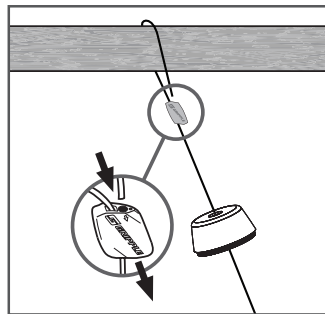

FIGURE 6: THREAD CABLE AGAIN
3. Pass tail end of cable through the other channel of the Gripple. (See figure 6).